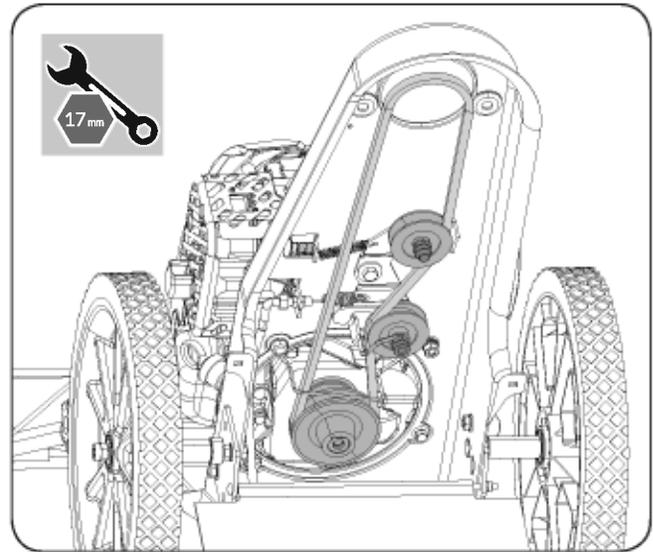

Figure 23
7. Install the new belt in reverse order. (See **Figure 23**)